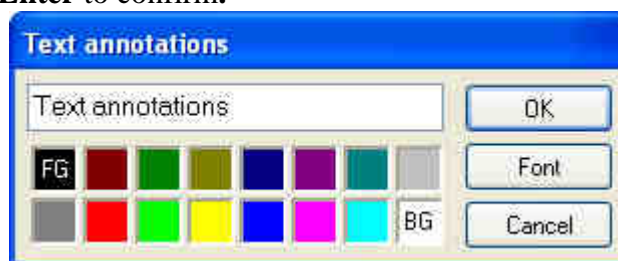

Fig. 10.5. Text Setting dialog box.
-  **Text** – insert annotation text. Press the left mouse button on the profile where you would like to add the text. In the appeared dialog box (Fig. 10.5), specify the text color (**FG**) with left mouse click and background color (**BG**) with right mouse click from 16 provided colors. Specify the font type (**Font**) and enter the text itself. Press **OK** or **Enter** to confirm.